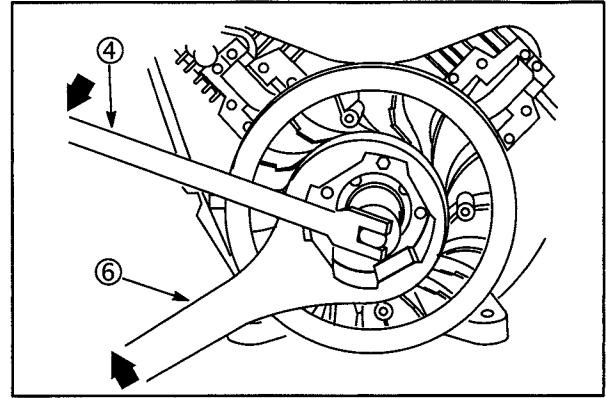

Fig. 15
1. Place Flywheel Holder #19321 (6) on fan retainer with lugs of flywheel holder engaging slots on the fan retainer, Fig. 15.
2. Turn the flywheel nut COUNTERCLOCKWISE (arrow) with a 1/2" breaker bar (4) and a 30 mm socket to remove